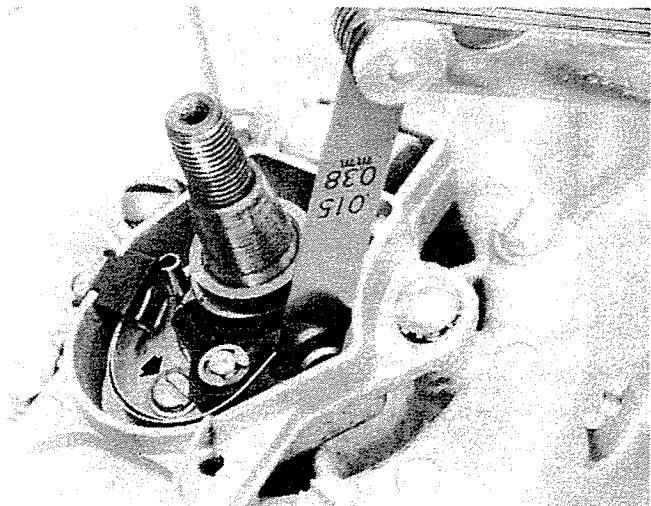

Figure 26. Adjusting Points.
1. Install flywheel nut on crankshaft. Rotate magneto stator to WOT position. See Specifications, Section 2. Turn crankshaft until index mark on high point of cam lines up with follower arm on breaker point, Figure 26.
2. Adjust breaker point opening to .015 in., check several times then tighten breaker point hold down screw. Figure 26.